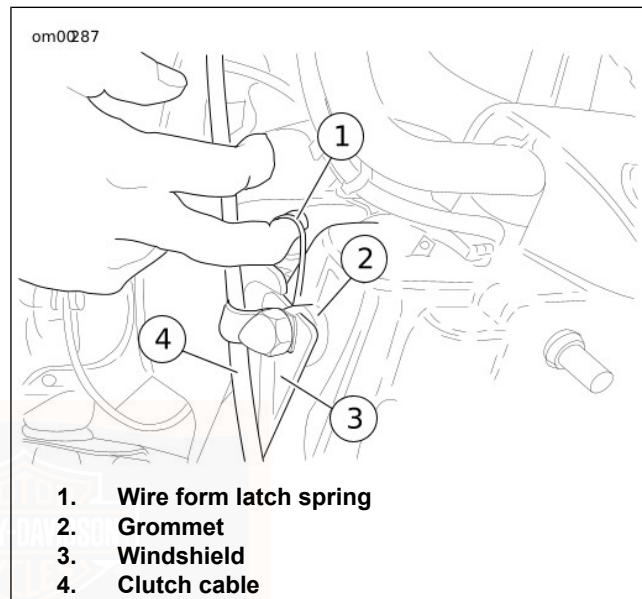

Figure 17. Windshield: FLHR/C
1. See Figure 17. Insert your fingers into the wire form latch springs at either side of the windshield and move the TOP of the windshield assembly forward, until the TOP bracket notches slide away from the grommets.
1. See Figure 17. Insert your fingers into the wire form latch springs at either side of the windshield and slide the BOTTOM windshield bracket notches onto the bottom grommets.